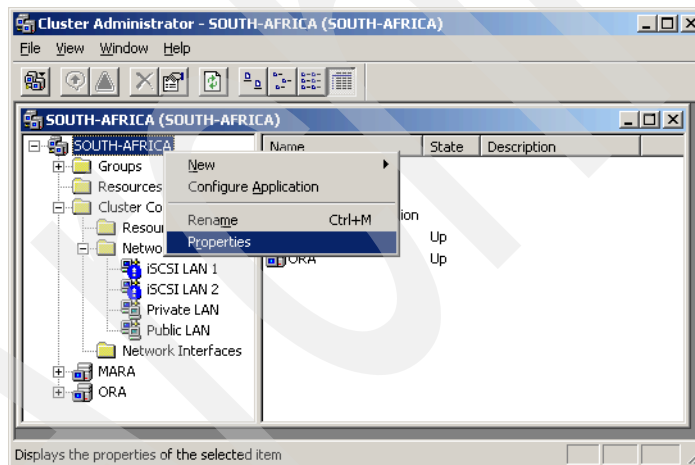

Figure 23-66 Cluster context menu
7. Verify that the private LAN has the highest priority for internal cluster communication. To do this, right-click the cluster name in the Cluster Administrator and select **Properties**. See Figure 23-66.